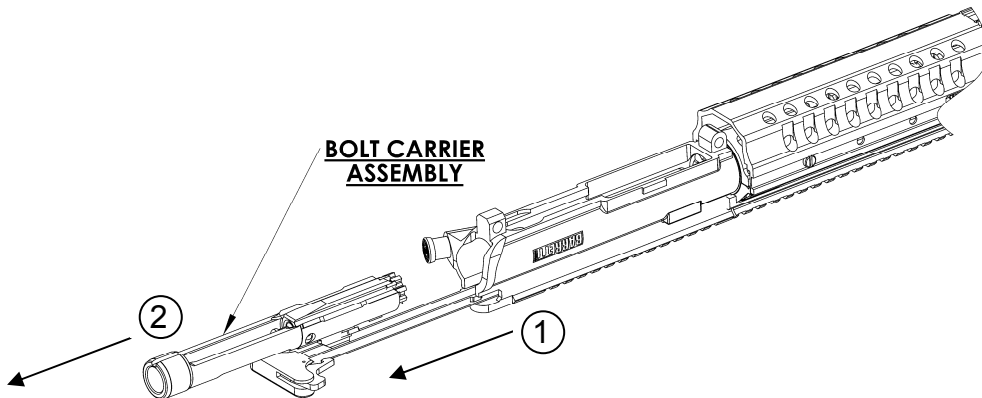

Figure 18.
1. On a work surface, turn the upper receiver upside down. Pull back the charging handle and withdraw the bolt carrier assembly. (Figure 18).